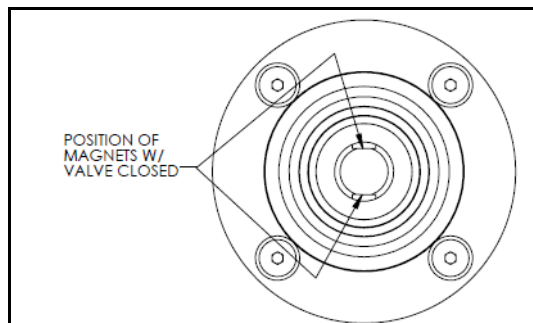

Figure 15 Magnet Position with Valve Closed
5. Ensure the turnbuckle assembly is parallel to the stem and the magnets are in the valve closed position (Figure 15) and connect to take-off bracket.